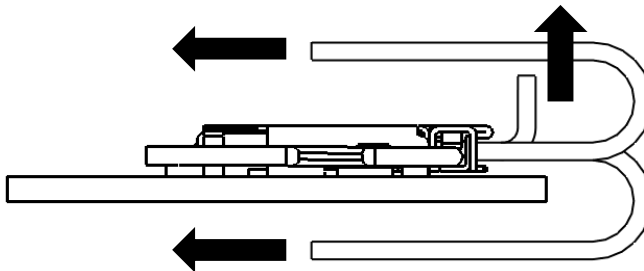

Fig. 23
- Continuous force of the direction shown in black arrow in Fig. 23 can damage connectors or cause the coming off from receptacle connector. Please be careful NOT to apply such force.